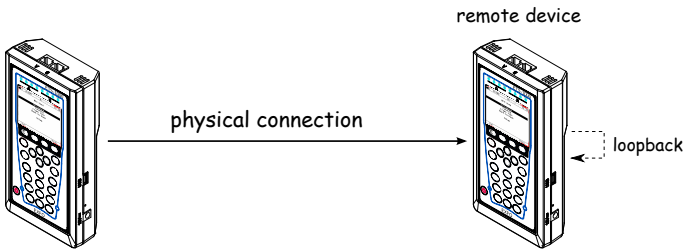

Figure 5.49. OAM testing scheme
- Connect **ETS-1000** and remote device directly in accordance with fig. 5.49 given below.